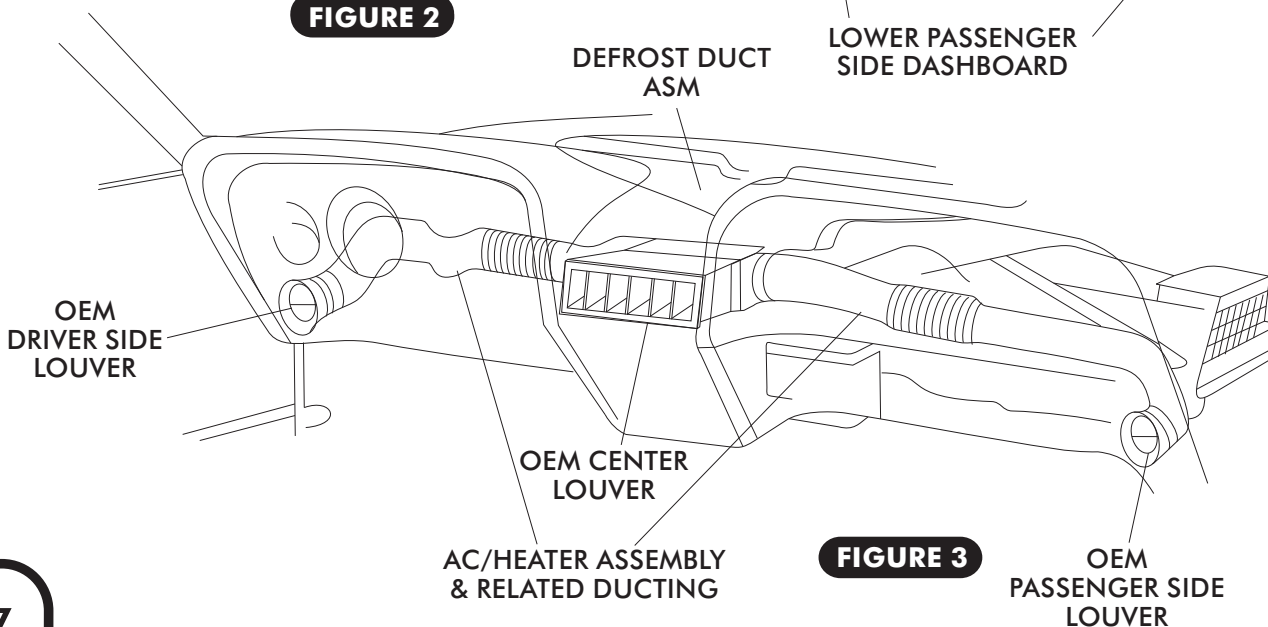

FIGURE 3
- AC/HEATER/EVAPORATOR ASSEMBLY AND ALL RELATED DUCTING (DISCARD), RETAIN SCREWS. SEE FIGURE 3.
- REMOVE OEM DEFROST DUCT ASM SEE FIGURE 3.